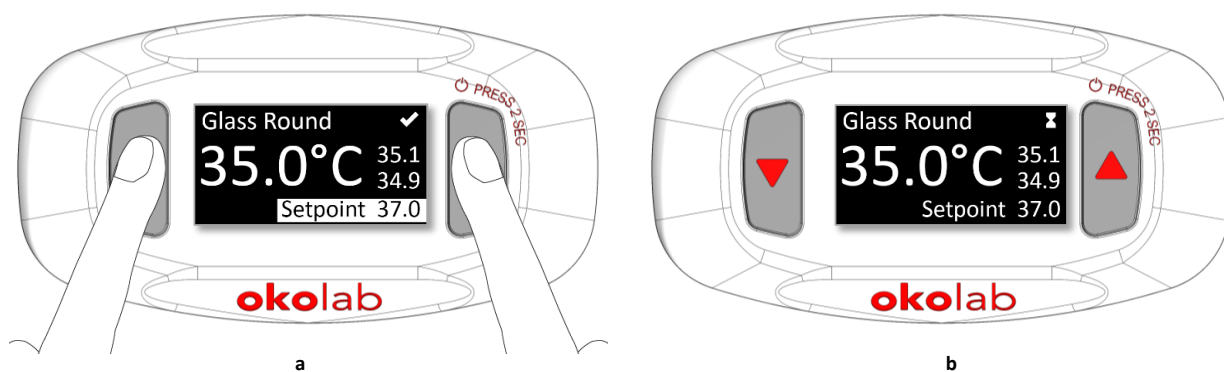

Figure 10. Confirm the Setpoint value (a - b).
3. Confirm the Setpoint value by pressing UP & DOWN buttons at the same time for 1 second (see Figure 10 a).
**Note** ► After any change in Setpoint value the controller enters into a transient regime. The Alert icon  will appear, as in Figure 10 b. During the transient regime, the controller will not go in alarm. As soon as